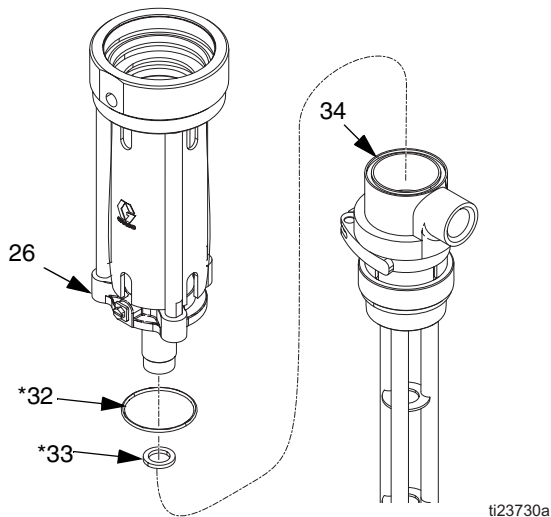

FIG. 24
11. Unscrew mounting flange (26) from pump body (34). Remove o-ring (32*) and PTFE gasket (33*) from pump body (34). Inspect all parts for damage. See FIG. 24.